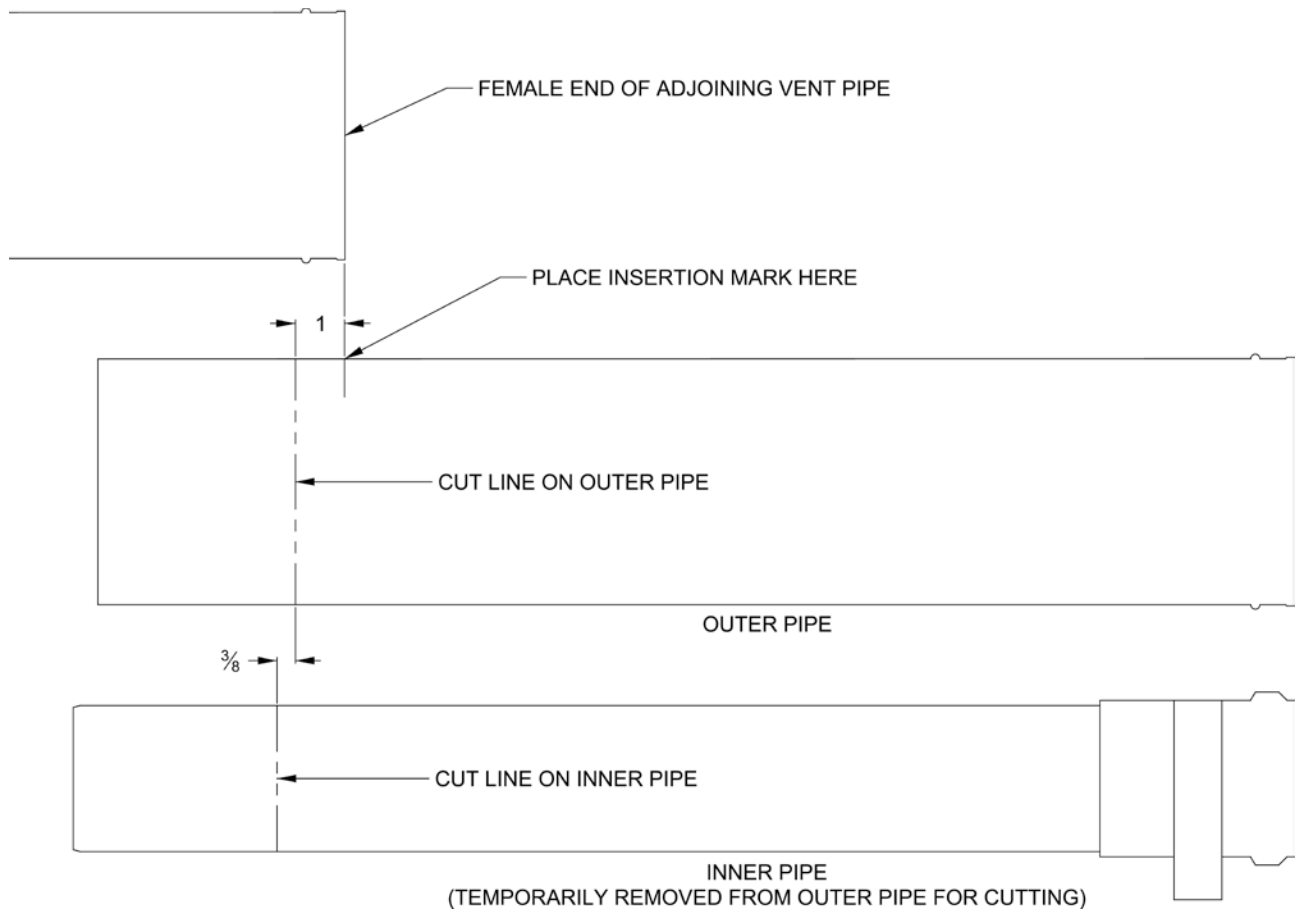

Figure 22: Cutting Straight Pipe
2. To cut the Concentric Vent Straight pipe to required length refer to Figure 22 "Cutting Straight Pipe" and follow the procedure below: